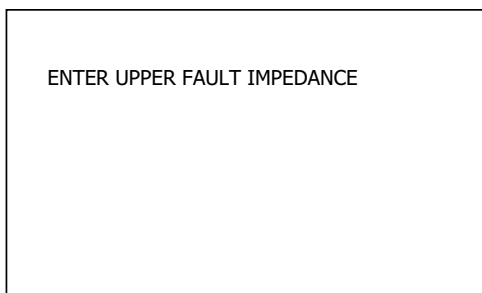

Figure 2-28
Step 2 – Select MAXIMUM OHMS by moving the cursor to that line and press any ▶ key. This will open a number entry screen as shown in figure 2-28.